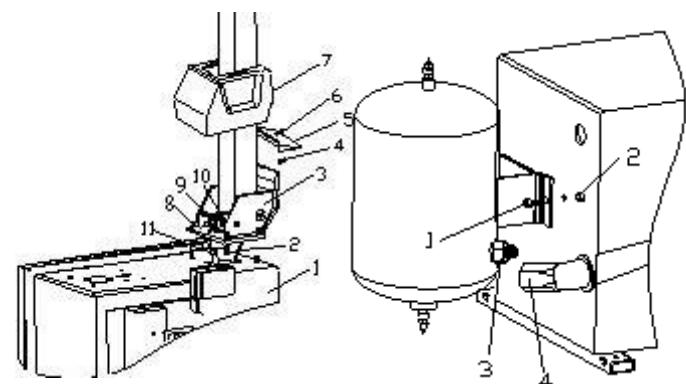

Fig 3
- 2) Place the tilting hinge (3, **Fig 3**) on the body (1, **Fig 3**) with four bolts (M12) and push the air hose (2, **Fig 3**) through the hole on the column. Tighten with 4 self-locking nuts (8, **Fig 3**).
- 3) Insert screw (**9, Fig 3**) into the holes on both the column and the tilting cylinder shaft (**11, Fig 3**), **Fig E**
tighten with self-locking nuts (**10, Fig 3**).
- 4) Unscrew the two bolts on the left cover and remove the cover, connect the air hose (**2, Fig 3**) to the side holes which control the tilting 5-way valve. Put the left cover back on the machine.
- 5) Attach the plastic cover (**7, Fig 3**) with two bolts (**4, Fig 3**).
- 6) Fasten the plastic cover (**5, Fig 3**) on the column with a screw (**6, Fig 3**).